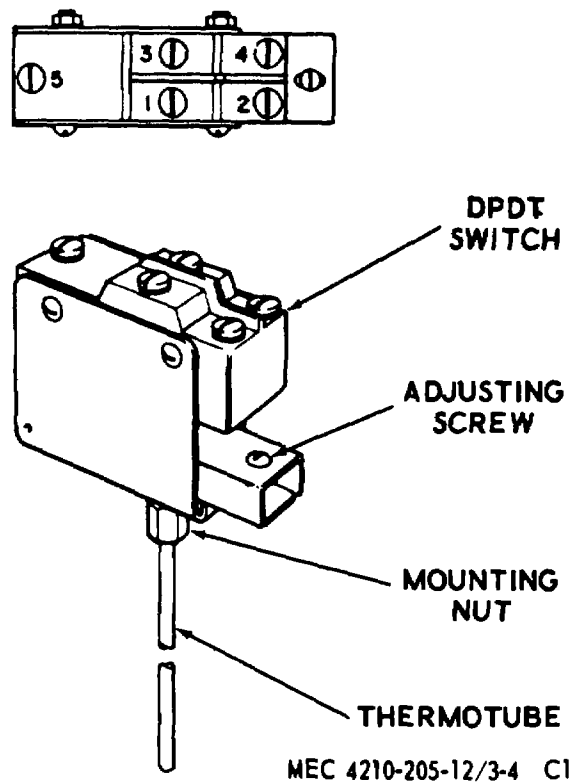

Figure 71.24. Flame switch adjustment.
b. *Flame Switch Adjustment* (fig. 71.24).
- (1) The adjusting screw is a spring-loaded screw at the open end of the switch frame. It adjusts the travel of the actuating pin of the switch.
- (2) With the flame switch at room temperature, loosen the adjusting screw until a distinct click is heard. Then tighten the screw until a second click occurs. At this point continue to tighten for three-eighths of a turn to correctly position the adjusting screw.